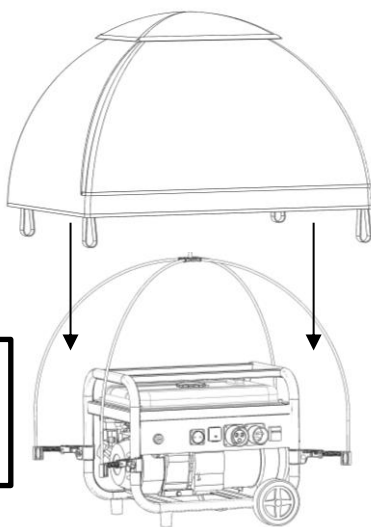

Fig. 4.1
- b. Place the GenTent canopy on the frame. Center the top cap on the center connector pin. (Fig. 4.1)